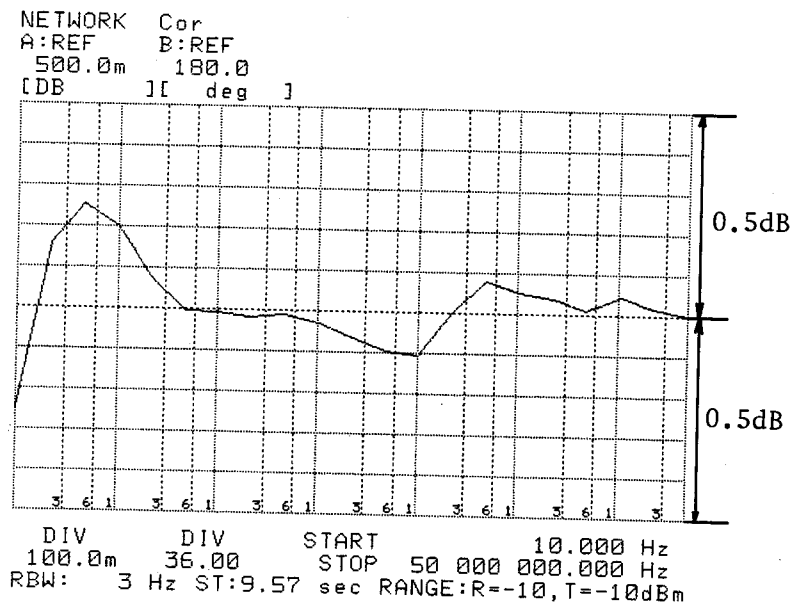

Figure 5-3. Adjustment Example
- Adjust **R18 (LF GAIN)** and **R25 (FLATNESS)** so that the T/R data displayed by the HP 4195A is within ± 0.5 dB for the data at 50 MHz, as shown in Figure 5-3.